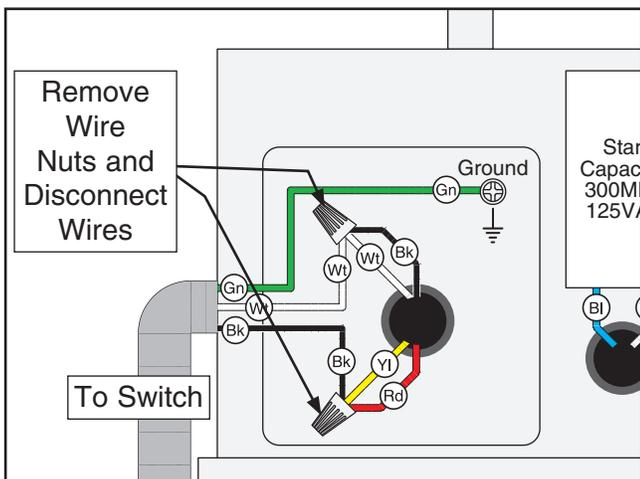

Figure 4. Inside motor junction box (motor pre-wired to 120V).
3. Open motor junction box, remove two wire nuts indicated in **Figure 4**, then disconnect wires.